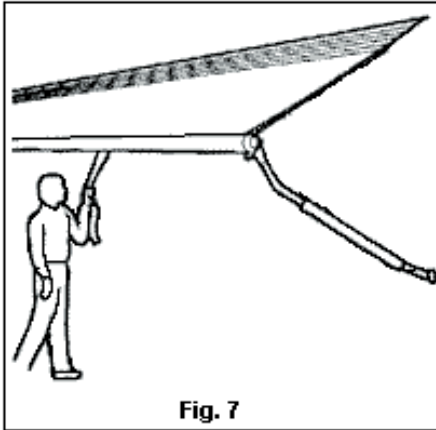

Fig. 7
2. Insert the pull rod in the loop of the center control strap and unroll the awning to the desired extension (Fig. 7).